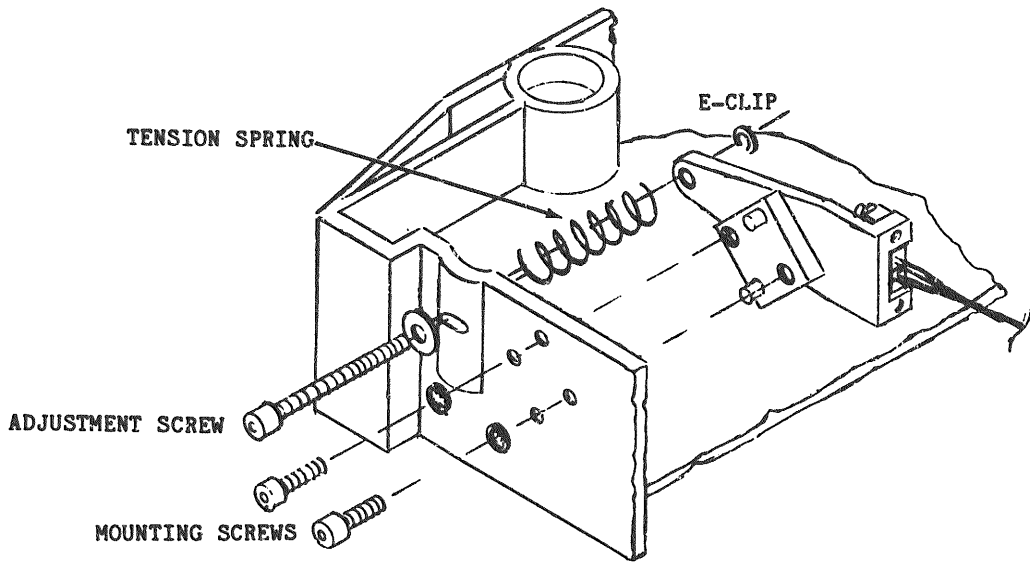

Figure 6-12. Track Zero Assembly
- c. In order to make the Track Zero Sensor accessible, free the Track Zero Assembly as follows (refer to Figure 6-12):
- h. Ensure that the adjustment screw, with the washer on it, is inserted through the adjustment hole in the casting and that the tension spring is added to the screw. Thread the screw through the brass insert in the plastic mount. The screw should extend 0.25 (+0.125) inch beyond the other side. Place the E-Ring on the end of the screw (refer to Figure 6-12).